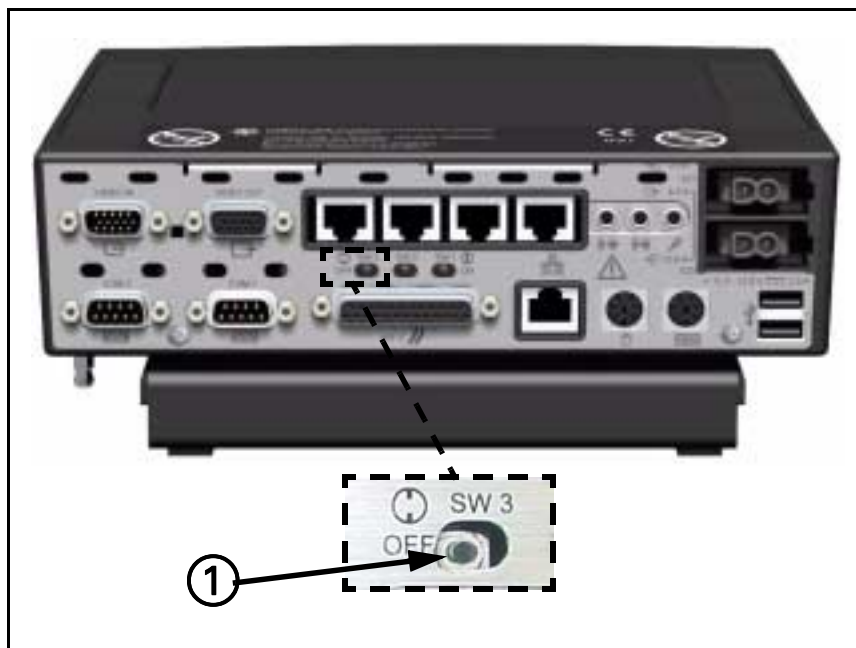

Figure 9-1 MDS (rear view)
Verify that BIOS switch (see ① in insert in Figure 9-1) on rear of MDS is set to right.